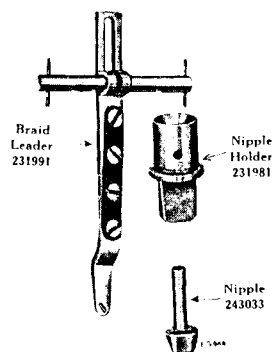
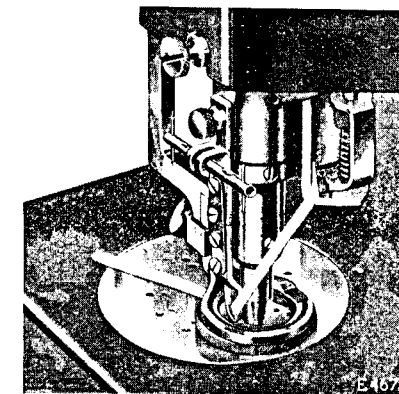

Fig. 35. Fittings for Imitation Two Needle Cording
Fig. 40. Machine 114w121 Threaded and Adjusted for Spiral Braiding
Remove the presser foot, needle plate and nipple, as instructed on page 9. In place of the cording nipple, use nipple holder 231981 (Fig. 35) and fasten it in the machine by means of the set screw so that the opening in the holder will be at the **front** when the handle (K, Fig. 10) is at the **front**.
Having selected the nipple (see Fig. 35) to fit the size of flat braid or filler to be used, fasten it in position in the nipple holder by means of the set screw, so that the opening is toward the **front** of the machine when the handle (K) is at the **front**. Then replace the needle plate and fasten large presser foot 231918 in position in the machine in place of the smaller presser foot 231986.
Braid Leader 231991 must be used for imitation two needle cording, as shown in Fig. 35.
Attach braid leader 231991 (see Fig. 35) to the machine as shown in Fig. 40.
Wind the encircling braid on the small metal spool (G, Fig. 8) and place the spool on the revolving spool carrier as instructed on page 16, then pass the braid directly from the spool through the slot in the lower end of the braid leader as shown in Fig. 40.